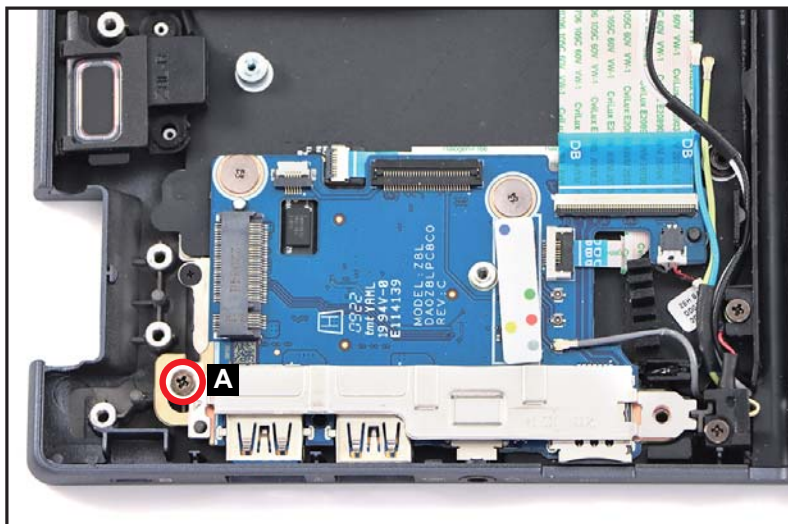

Figure 1-27. LTE Board Removal
1. Remove one (1) screw (A) securing the I/O bracket (Figure 1-27).